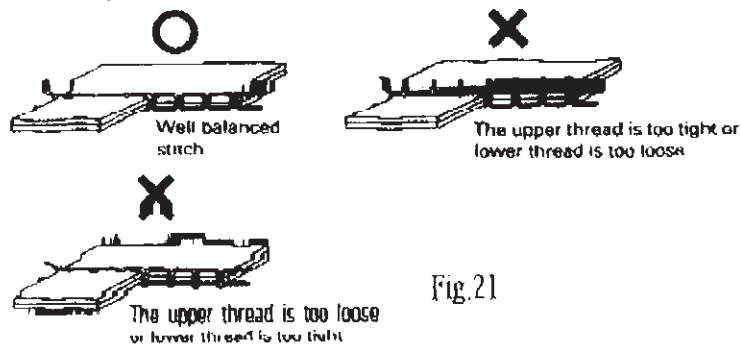

Fig.21
21. Adjusting the thread tension (Fig.21):